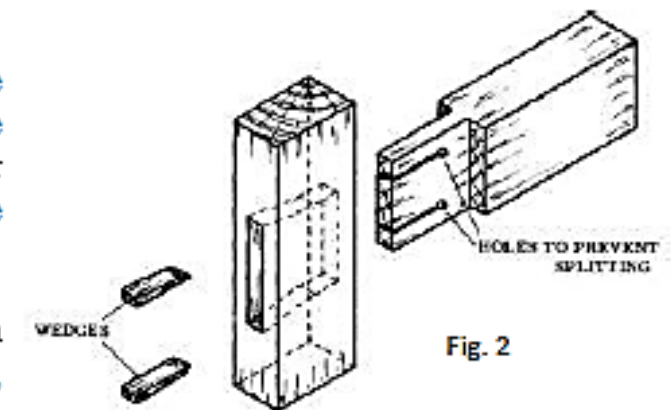

Fig. 2
The third halved joint we deal with is the cross-halved joint (Fig. 2). It is used where two members cross each other.
- Mark out the position of the mortise and square the lines across the face side and edges, using a try square and pencil (Fig. 2).
Where the end grain of the tenon and the opening of the mortise must be hidden, the stub tenon joint is chosen (Fig. 2). In this joint the tenon does not pass through the mortised member, but is stopped inside. The sequence of operations for constructing this joint is the same as for the common mortise and tenon joint. Stub tenons are also used for box-like constructions.
(a) Cut the mortise with an allowance of 2 mm in width, tapering from the outside edge to about 2/3rd of its depth (Fig. 2).
(a) Mark the position of the pin on one member, making the distance between the shoulders equal to the width of the other piece. Square the lines all around the piece with a try square and pencil (Fig. 2).
This is the simplest widening joint (Fig. 2). The edges of the boards are planed perfectly straight and square, and then butted together. The joint is glued and clamped tightly to force out the surplus glue. For narrow pieces this is done with G-clamps. For wider pieces, wooden or metal sash clamps are used.
Mark the depth and width of the rebate with a marking gauge (Fig. 2).
Fix a wooden guide strip along the line that marks the width of the rebate (Fig. 2). The guide strip must be perfectly square and it should be flat.